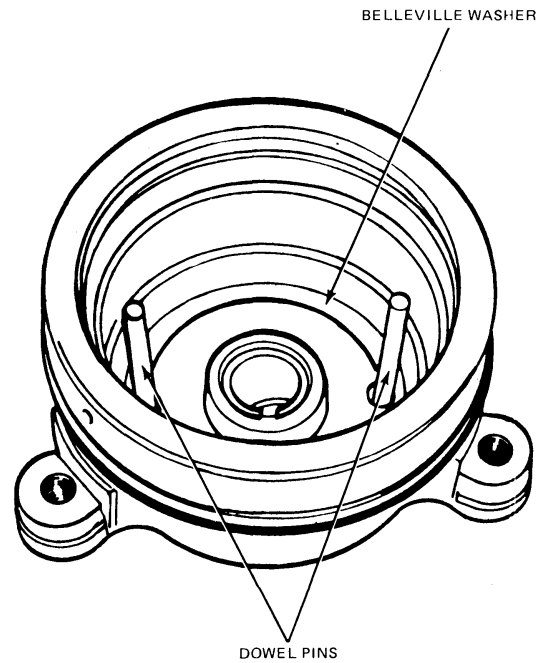

FIG. 18 Installing Belleville Washer and Dowel Pin
9. Insert the (2) dowel pins and the Belleville spring into the housing plate (Fig. 18).